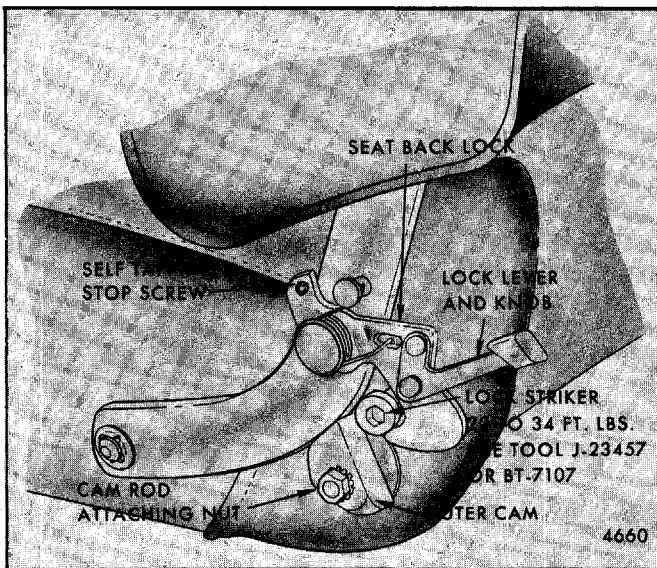

Fig. 9-49-Adjustable Driver's Seat Back - Driver's Side Only
1. At right side of seat, remove handle screws (see Figs. 9-49 and 9-50) and remove handle.
4. Remove screw securing inner detent plate and remove detent plate (see Figs. 9-49 and 9-50).